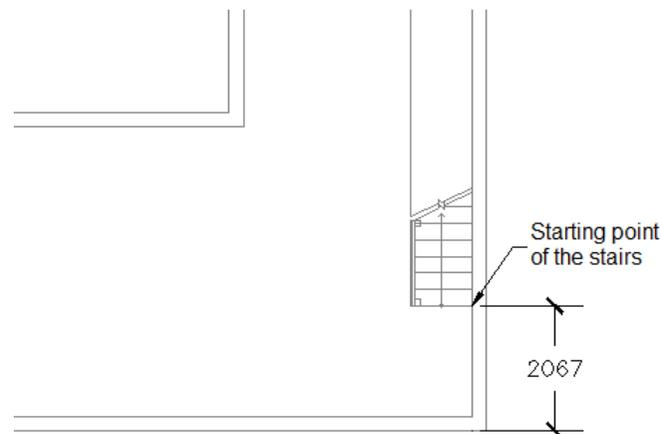

Figure 3-51 Starting point of the stairs
3. Select a starting point for stairs and align it with the adjacent wall, refer to Figure 3-51.